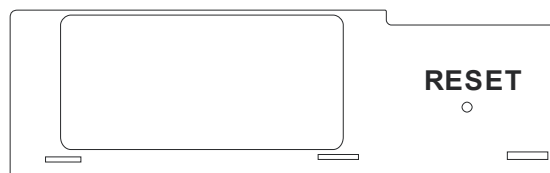

Figure 71
1. Press and hold, using a pointed object, the receiver's reset button until you hear two acoustic signals (see **Figure 71**).